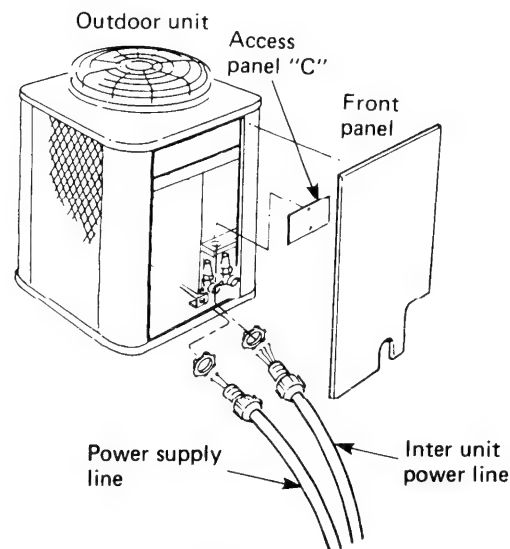

Fig. 20
- Remove access panel "C" and punch knockout holes on the panel. Fig. 20